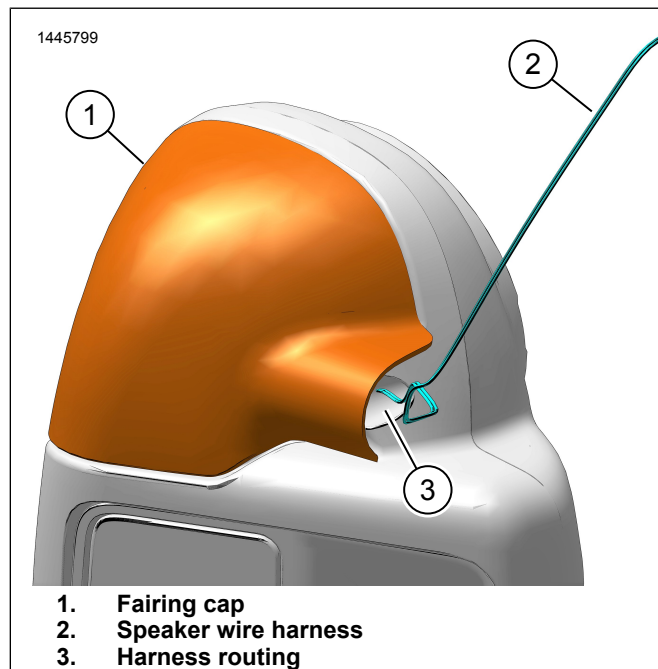

Figure 13. Wire Harness Routing
3. See Figure 13. Install lower fairing cap (2).